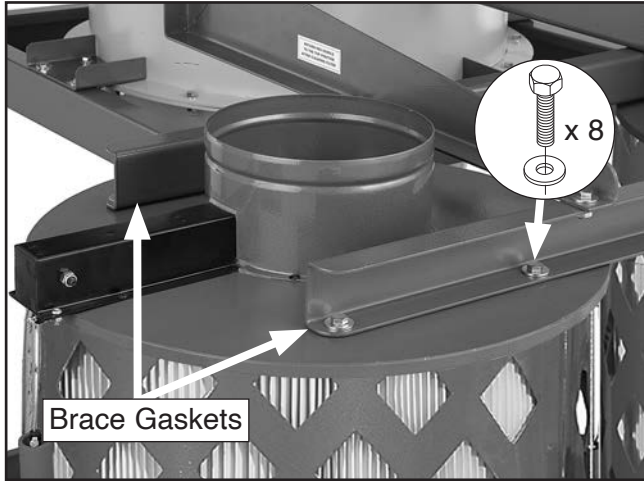

Figure 24. Example of canister filters mounted to long support braces.
21. Mount (2) filters to braces with brace gaskets between them (see **Figure 24**) using (8) $\frac{5}{16}$ "-18 x $\frac{3}{4}$ " hex bolts and (8) $\frac{5}{16}$ " fender washers.